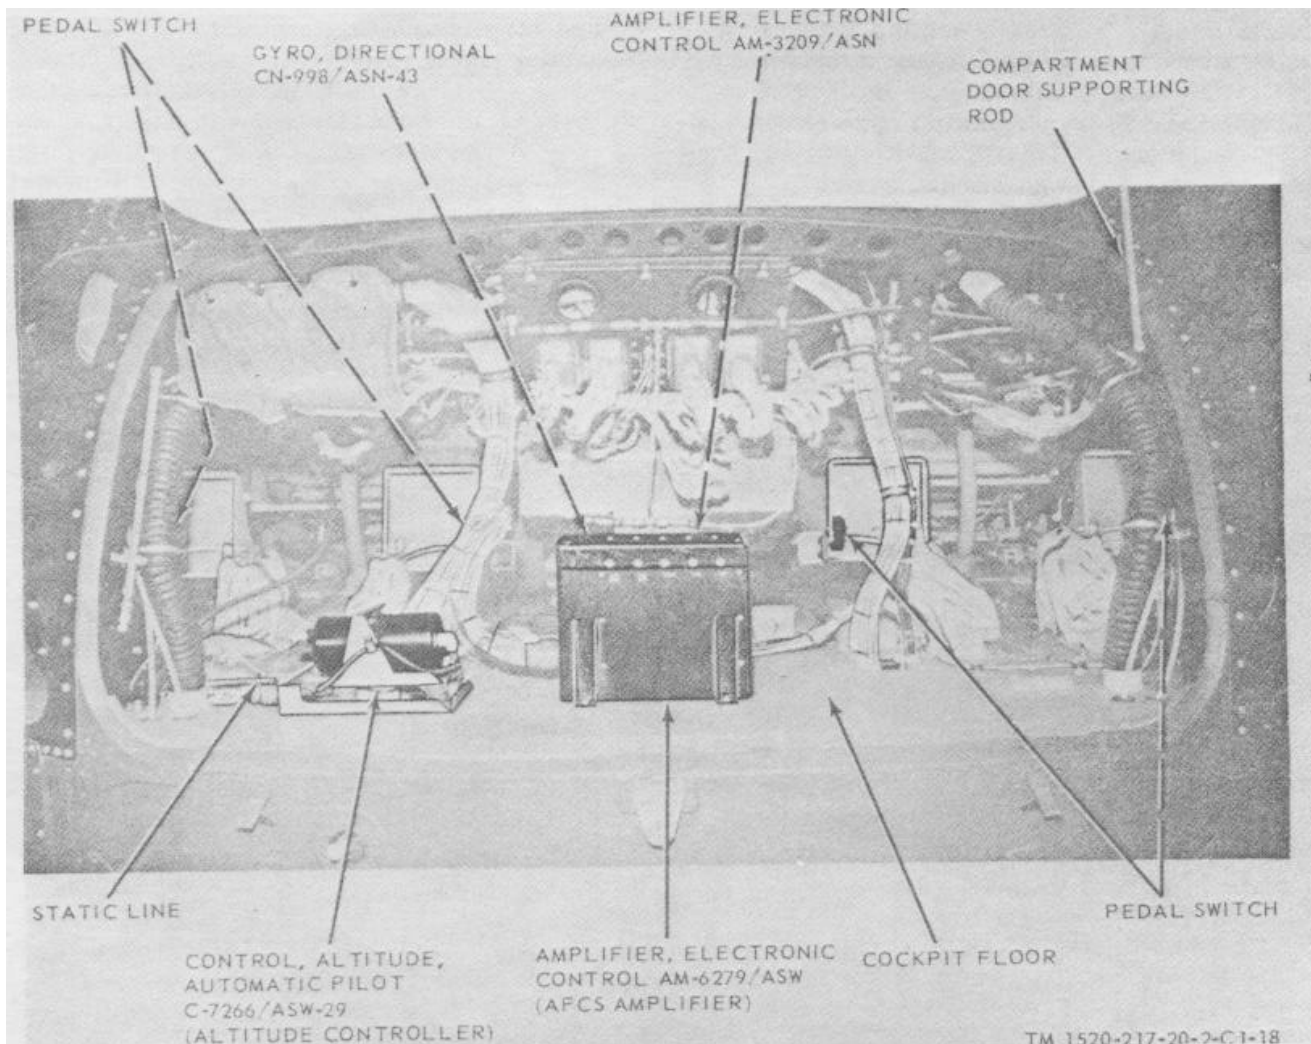

Figure 2-13. Upper nose compartment component location.
(1) *Removal of Gyro, Directional CN-998/AS.-43 (fig. 2-13).*
(2) *Replacement of Gyro, Directional CN99&i4S.V-43 (fig. 2-13).*
(3) Removal of Amplifier, Electronic Control AMJ-3209/ASN (fig. 2-13).
Control Amplifier, AM-3209/ASN (fig. 2-13).